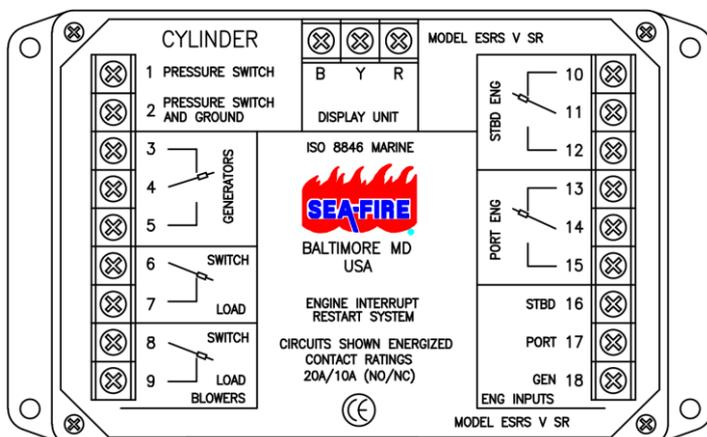
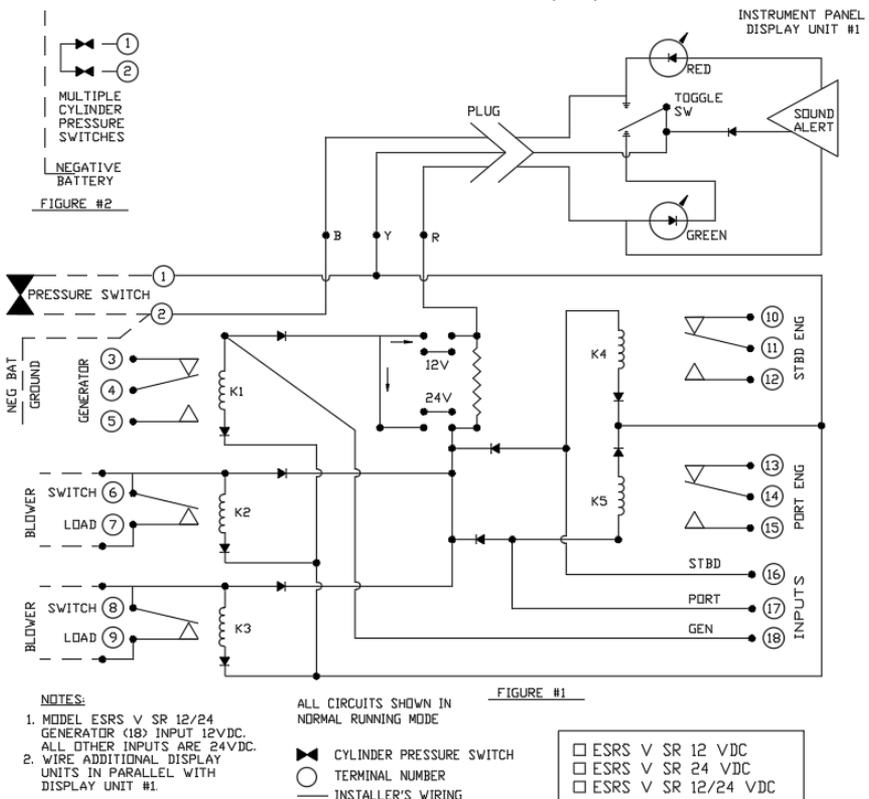

Figure 1: Engine Shutdown Restart Systems for use with Automatic Fire Extinguishers
Figure 3: Wiring Schematic
Connections to the Control Unit and the Sea-Fire extinguisher should be made with insulated crimp connectors. Refer to the wiring diagram in **Figure 3** when making connections to this unit.
Gasoline engine(s) can be shut down by interrupting the path of primary ignition power from the key switch to the ignition coil. This can be accomplished by utilizing the common and normally open contacts shown on the unit in **Figure 1** and wiring diagram in **Figure 3**.
1. The fuel solenoid valves are energized to open on start-up, and de-energized to close on shutdown, starving the engine of fuel. This can be done utilizing the common and normally closed contacts shown on the unit in **Figure 1** and wiring diagram in **Figure 3**.
2. The fuel solenoid valves are de-energized to open on start-up, and energized to close on shutdown, starving the engine of fuel. This can be done utilizing the common and normally open contacts shown on the unit in **Figure 1** and wiring diagram in **Figure 3**.
Complete all electrical connections described in the Electrical Connections Section. Confirm that all connections are correctly wired per the wiring diagram in **Figure 3** and properly secured.
When connecting more than one extinguishing cylinder to a Control Unit, all pressure switches must be wired in series and grounded at the last pressure switch only. Each individual pressure switch must undergo an Installation Check. Refer to Figure 3 of the wiring diagram.